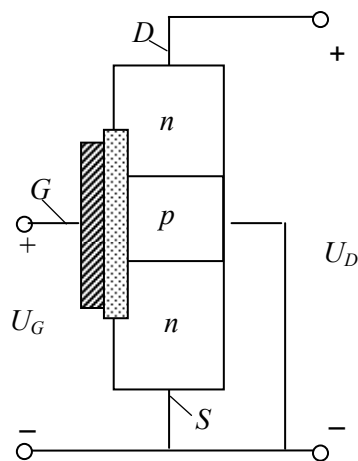
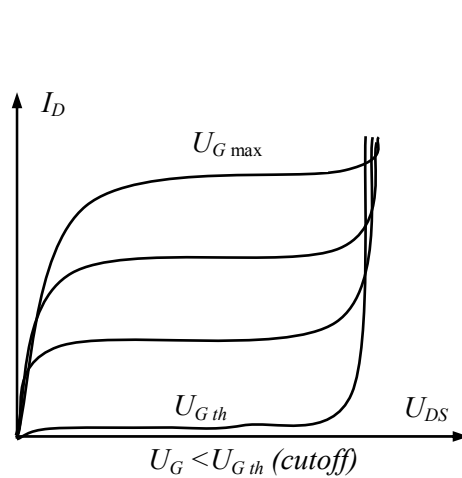

Fig. 1.39
Fig. 1.41
**Enhancement-mode MOSFET.** Figs. 1.39 and 1.40 display an *n*-channel *enhancement-mode MOSFET*. These devices have revolutionized the electronics industry. Because there is no longer an *n* channel between the source and the drain, an enhancement-mode MOSFET is normally off when the gate voltage is zero, whereas a depletion-mode device is normally on. When the gate voltage is positive enough, electrons fill all the holes touching the silicon dioxide. The effect is the same as creating of a thin layer in *n*-type material next to silicon dioxide. This conducting layer is called an *n*-type *inversion layer*. The normally off device suddenly turns on and free electrons begin to flow easily from the source to the drain. The minimum  $U_{GS}$  that creates the inversion layer is called a *threshold voltage*,  $U_{G\,th}$ . Figs. 1.41 and 1.42 reflect a set of drain curves and an input curve for an enhancement-mode MOSFET, where the vertex (starting point) of the transconductance parabola and lowest drain curve are at  $U_{G\,th}$ .